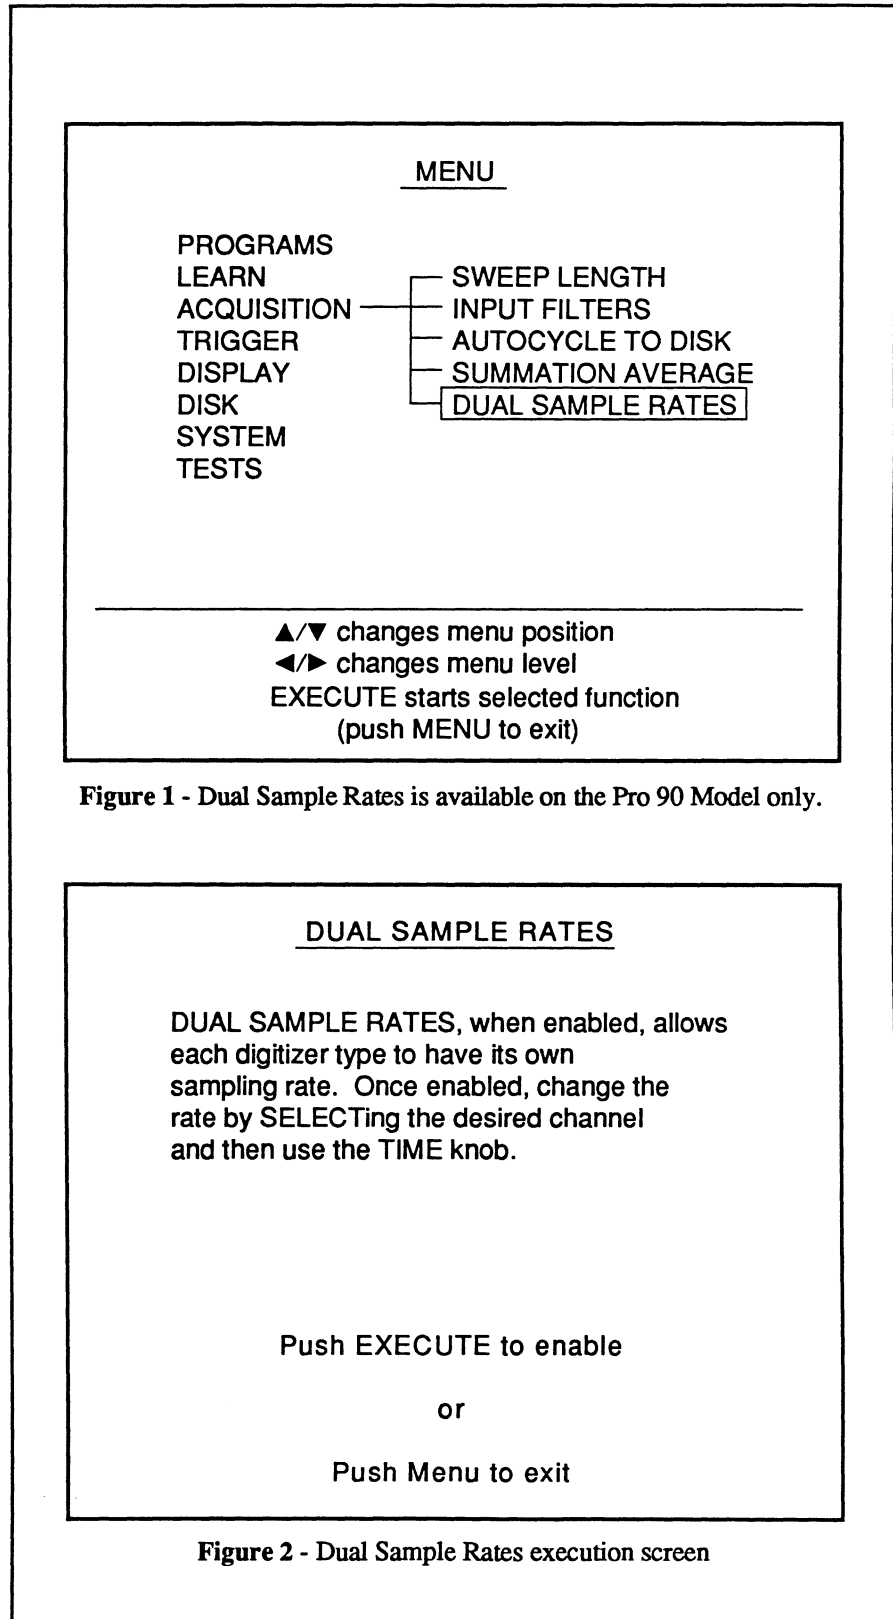

Figure 1 - Dual Sample Rates is available on the Pro 90 Model only.
5. To set the Time Per Point value for channels 1 and 2, highlight the left value (Figure 1) by pressing the Select button and then adjusting the Time control knob until the desired setting appears.